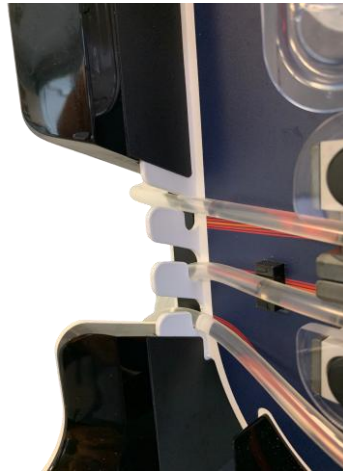

Figure 86: Tubing installation in the tubing bracket
- Put the tubing at the bottom of the tubing bracket grooves (See Figure 86).